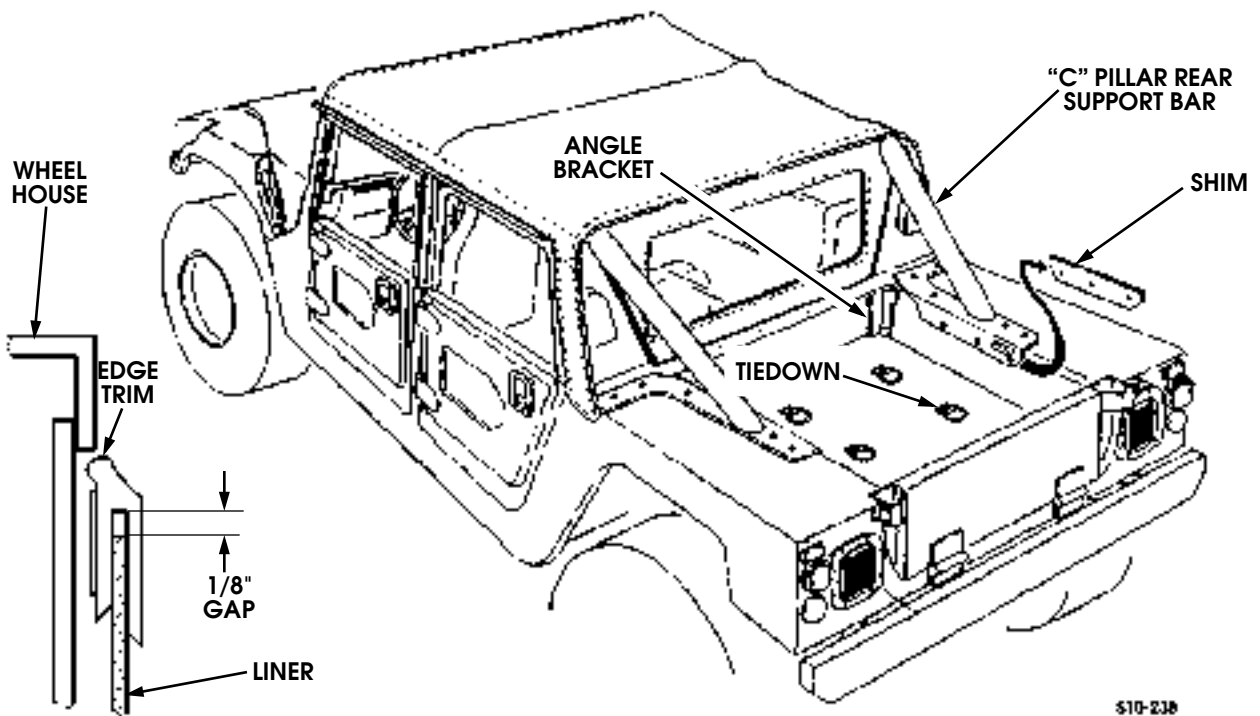

Figure 13-80: Bedliner Installation In Soft top vehicle.
4. If your vehicle is a soft top model, remove the bolts and nuts securing the "C" pillar rear support bars to the wheelhouse (See Figure 13-80). Remove the shims from between the support bar brackets.